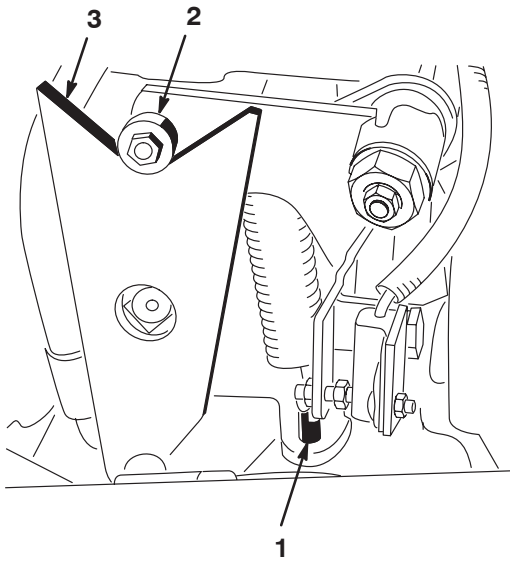

Figure 21
3. Loosen the locknut on the spring adjusting pin until the bearing moves freely from the cam on the lever (Fig. 21), allowing the pump shaft freedom to rotate during start-up.